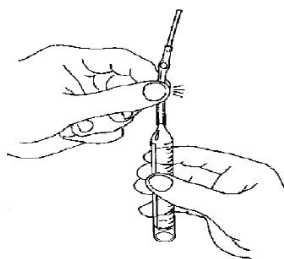

Figure 3
3. Snap the ampoule tip at the score mark (Figure 3).